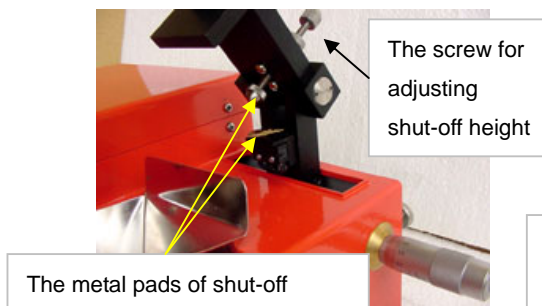

Figure 6
- Adjust the automatic shutoff control by adjusting the height of the screw at the rear of the arm assembly. When the screw comes into contact with the metal pads at the base of the arm, an electrical switch shuts off the cutting wheel. After properly adjusting the screw, tighten the bolt on the shutoff screw to ensure the position of the screw. This will ensure that cutting will stop when the endpoint is reached (Fig 6).